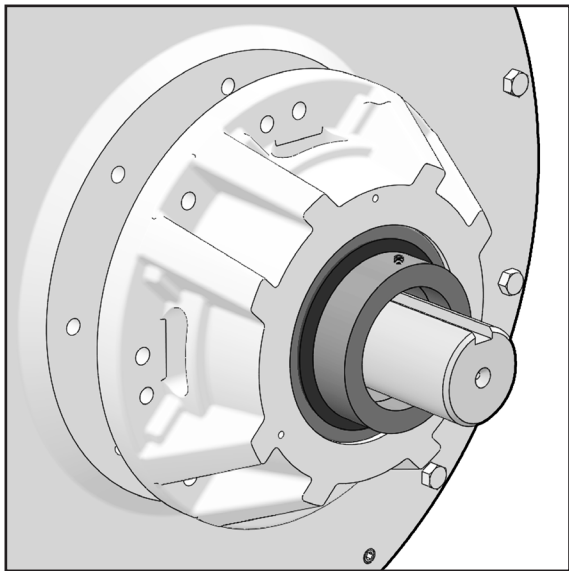

FIGURE 16
- 23. Slide cartridge gently by hand as far as possible onto rotor shaft (Figure 16)).